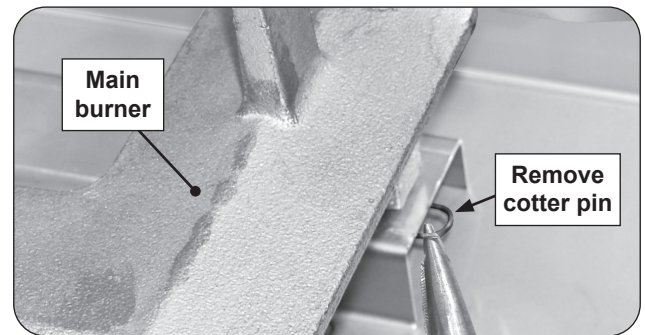

Fig. 34-2 Remove cotter pin
2. Locate and remove the cotter pin from the left or right rear burner anchoring peg by pulling it straight out of the cotter pin hole using fingers or needle-nose pliers. See Fig. 34-2.